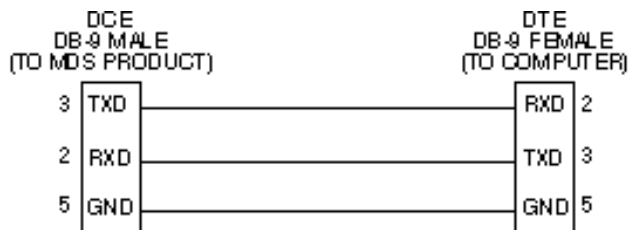

Figure 2-5. Serial Communications Cable (RJ-11 to DB-9)
1. Connect a serial communications cable between the PC and the unit's COM 1 port. If necessary, a cable may be constructed for this purpose as shown in Figure 2-5.